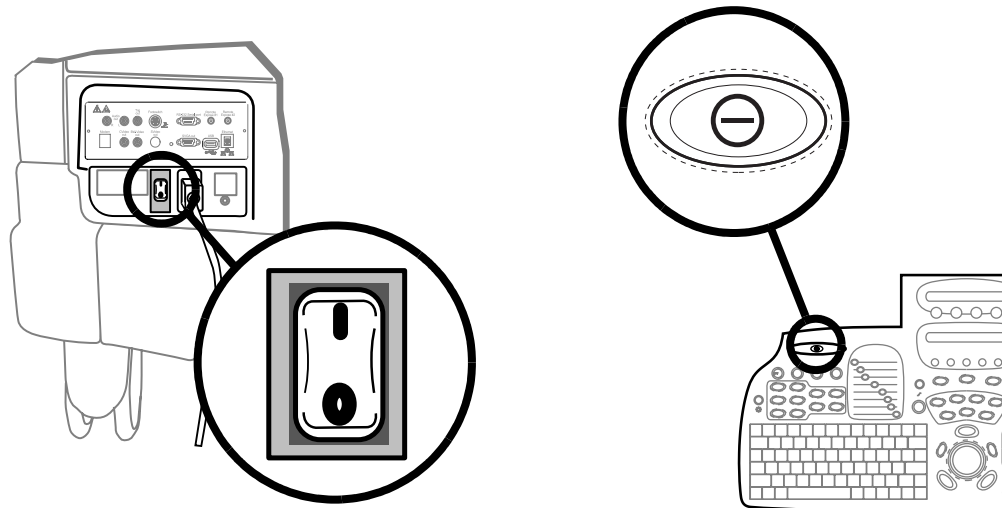

Figure 1-4: The Circuit breaker and On/Off button
1. Switch on the circuit breaker on the rear of the unit (see Figure 1-4).
2. Press \ominus (on/off button) on the top left of the control panel (see Figure 1-4).
2. Switch on the circuit breaker on the rear of the unit (Figure 1-4).
3. Press \ominus (on/off button) (Figure 1-4).